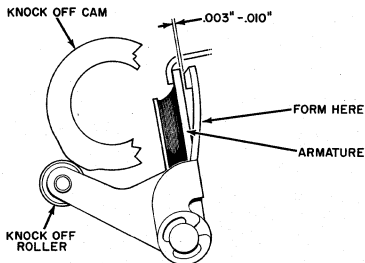

Figure 25
7. Cycle the punch shaft until the armature knock off roller is on the high dwell of the knock off cam (Figure 25). Form the armature knock off arm so there is .003" to .010" clearance between the armature knock off arm and the clutch armature. The armature knock off occurs between 215° and 225°. If it occurs during the first part of the cycle the armature knock off cam is installed incorrectly and it must be removed and reinstalled so the high point is on top with the clutch detented.